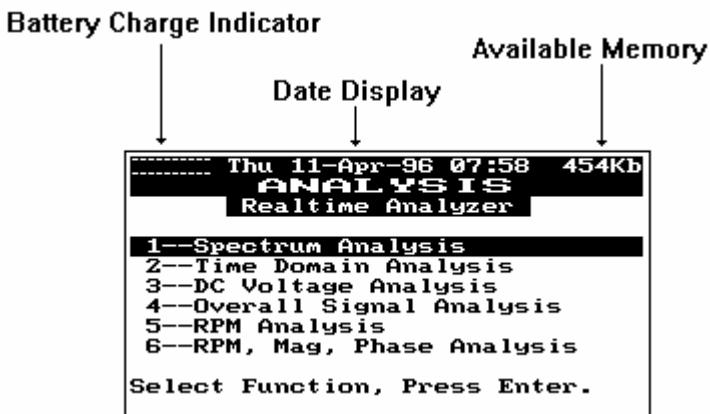
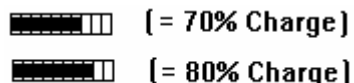

Figure 5
Figure 6
5. Press the **[ON/OFF]** key to turn the analyzer on. If no procedures have been installed into the analyzer, the screen will display the "ANALYSIS, Realtime Analyzer" banner screen. (See figure 5 below). Just above the banner and in the left uppermost corner of the screen a battery charge indicator bar is displayed. The bar (see Figure 6 below) is divided into ten blocks indicating nominally ten percent of full charge each. The battery charger must be disconnected from the charging port in order to ensure an accurate indication of the battery charge is displayed on this indicating system. The percent of charge display is not continuously updated but periodically updates when new information is displayed on the screen such as when changing menus or after pressing the RESET key.